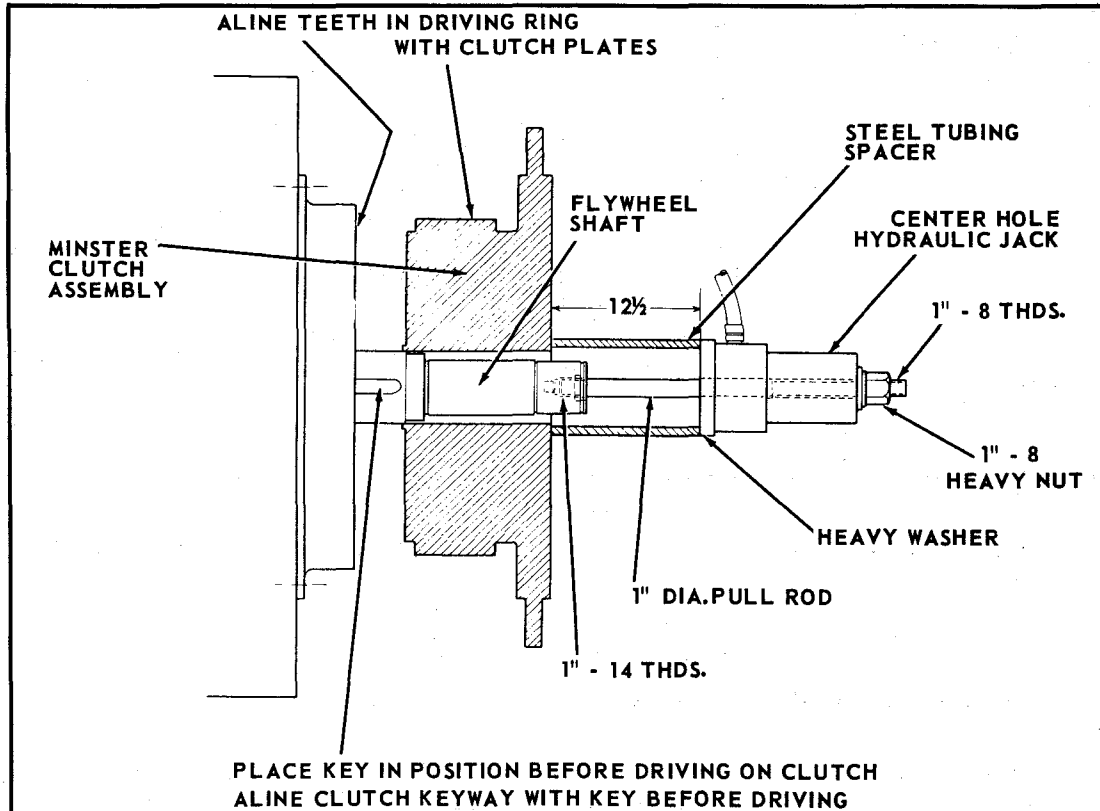

Figure 15
- O. Refer to Figure 15 for suggested method of assembling clutch to flywheel shaft and flywheel.